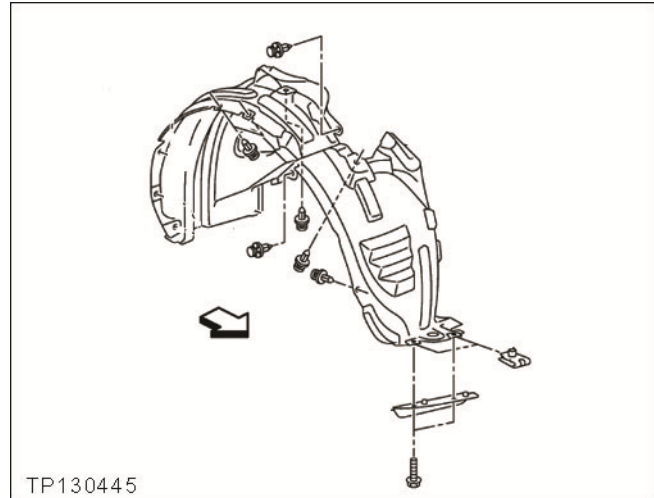

Figure 57
- Install the 2 bolts and 7 clips shown in Figure 57.